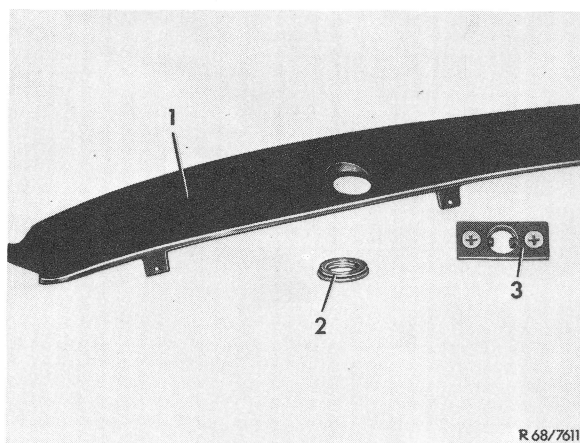

Fig. 1
- 3 Install modified guide bearings (3).
- 4 Insert washers (2) into the two bores of windshield header molding (1) (Fig. 1).